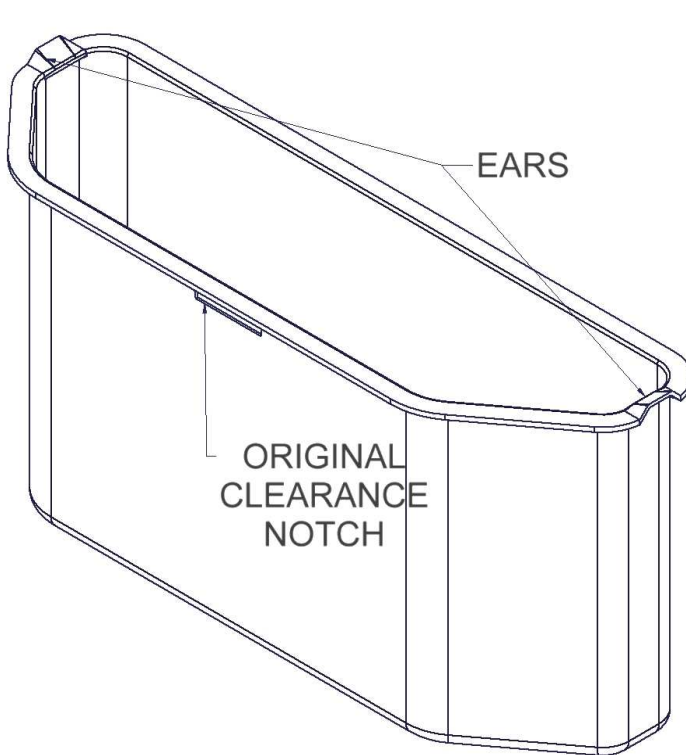

FIGURE 2
2. The "ears" on either side of the liner must be removed down to a level where they will not interfere with the #357 Security Lid as it is closed and locked. (SEE FIGURES 2 AND 3)